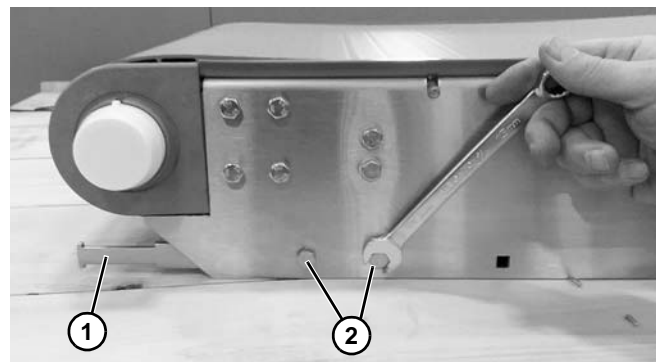

Figure 14
1. Attach one bracket (**Figure 14, item 1**) to each side of the conveyor loosely with two screws (**Figure 14, item 2**).